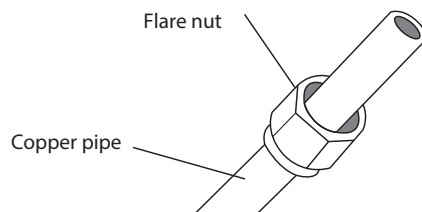

Fig. 7.7
3. Place flare nuts on both ends of pipe. Make sure they are facing in the right direction, because you can't put them on or change their direction after flaring. See Fig. 7.7